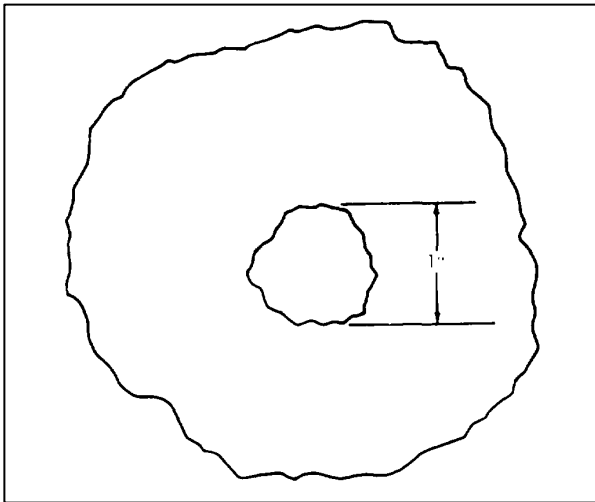

Figure 4-3. Puncture or Hole
- c. Patching punctures or circular holes 1-inch or less in diameter (see Figure 4-3).